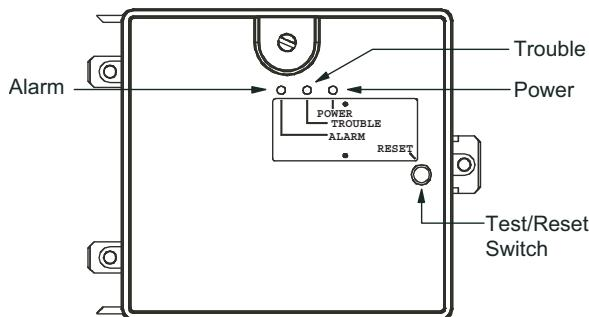

Fig. 46 — Controller Assembly
- The contacts on the controller's supervisory relay switch positions (see Fig. 46).